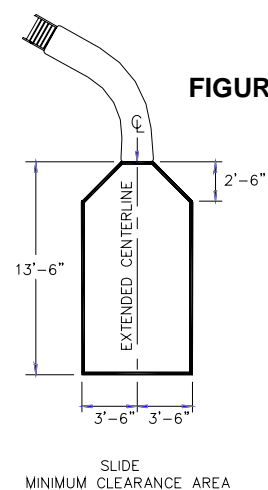

FIGURE 2
- A. The minimum clearance distance on either side of the extended centerline of the slide runway shall not be less than three feet six inches (3'-6") at a point no less than two feet six inches (2'-6") from the exit lip of the slide and extending a distance of thirteen feet six inches (13'-6") in front of the slide. (See FIGURE 2)
5. Observe the position of the exit of the slide as shown in FIGURES 2, 3 and 4 on pages 3 and 4.